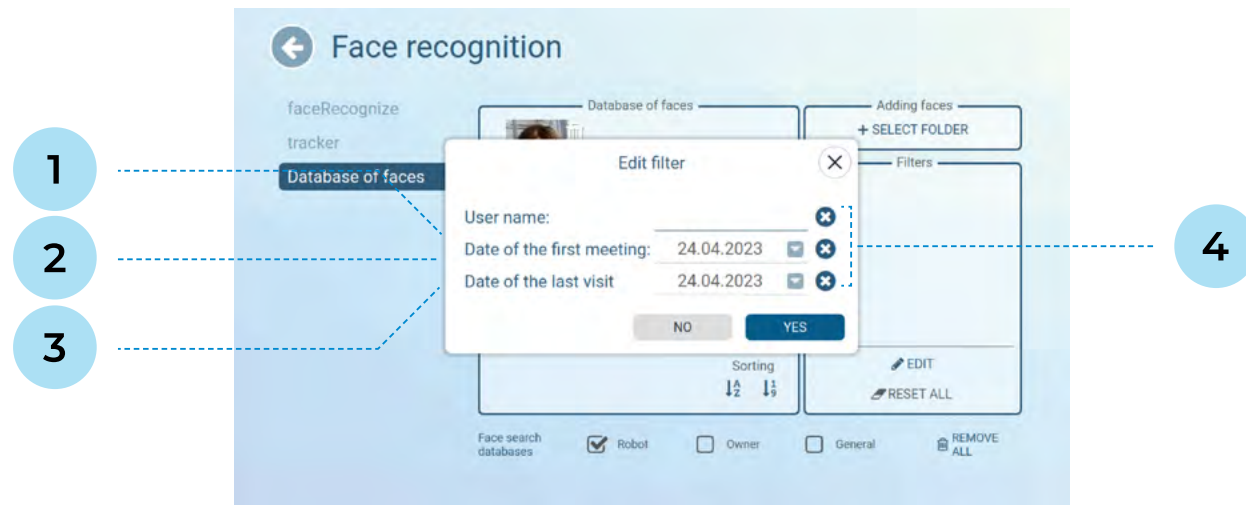

Figure 6.18. Editing the face display filter
- Edit** — button for editing filters (Figure 6.18).